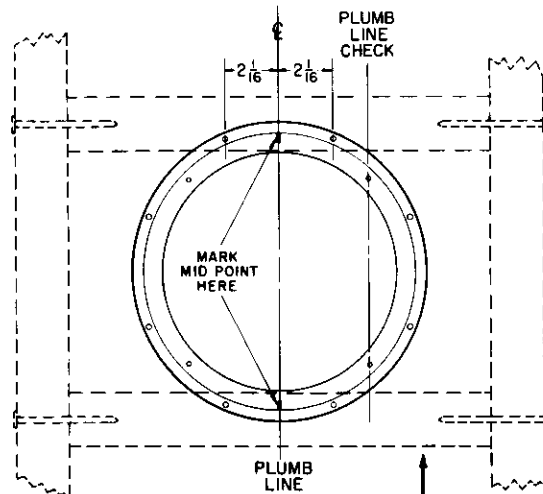

Figure 4.
2. Nail 2 by 2's in place and install Plaster Ring as shown in *Figure 4* after lath has been applied.